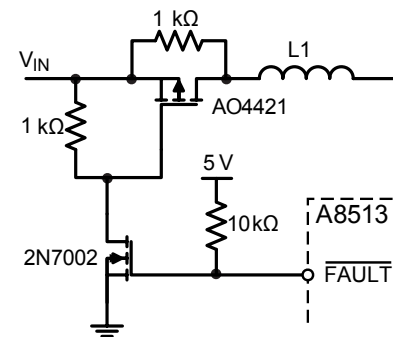

Figure 14. Typical circuit for input disconnect switch.
**Undervoltage Protection** The OVP pin is also used to detect output undervoltage protection (UVP) against  $V_{OUT}$  short to GND. When the UVP fault is tripped, the fault flag is set (figure 14). Using an external PMOSFET interfaced to the FAULT pin (figure 14), the user can disconnect the IC from  $V_{IN}$  during a fault event.